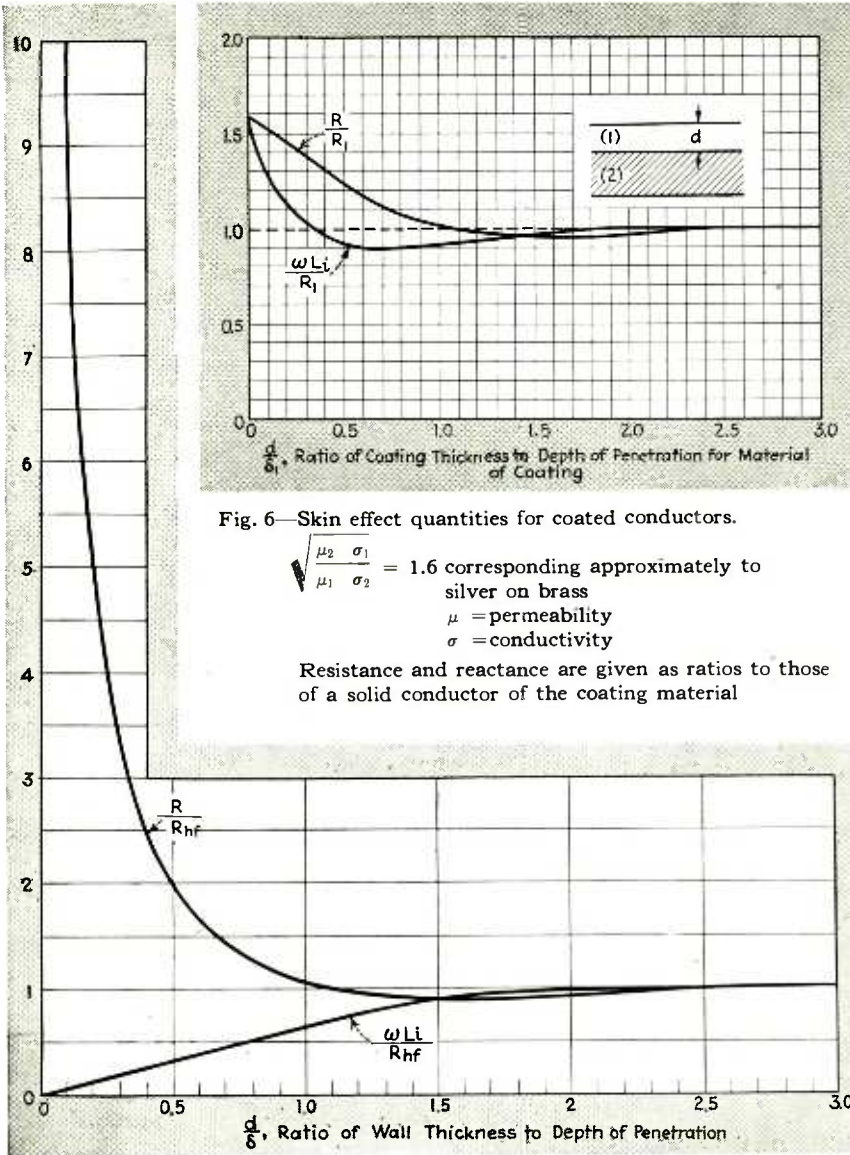
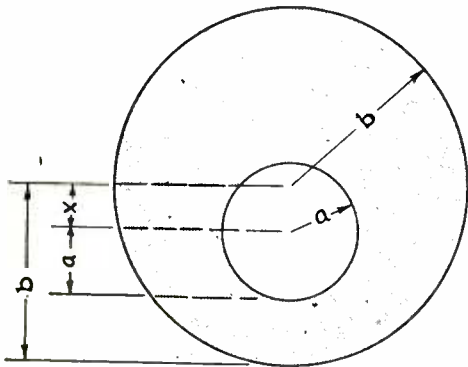

Fig. 6—Skin effect quantities for coated conductors.
Fig. 1—Configuration of eccentric transmission line with inner conductor displaced by amount  $x$
$d$  is wall thickness.  $\delta$  is given by Eq. 1 or Fig. 1.
$\delta_1$  is given by Eq. (1) or Fig. 1.
Curves are plotted in Figs. 6, 7, and 8 as functions of the ratio of coating thickness to depth of penetration, for values of  $\frac{R_{s2}}{R_{s1}} = 1.6$ , 0.34, and 5. These correspond approximately to silver coating on brass, solder coating on copper, and copper coating on iron or Fernico. It is seen that in all cases when coating thickness is equal to or greater than the depth of penetration,  $\delta_1$ , for the material of the coating (obtained from Eq. 1 or Fig. 1), the composite conductor is nearly as good, or as bad, as though the conductor were made entirely of the coating material.
$R_2$  given by Eq. (2) or Fig. 1.
It is of interest to find that the first order corrections are independent of conductivity of the coating. For any practical cases ( $d/\lambda$  small and  $R_{s2}$  less than one, as shown by Fig. 1) the correction to resistance is always small, but the correction to internal reactance may be very large since the coating may be much thicker than depth of penetration in the coated conductor, and so may contain much more magnetic flux than the coated conductor.
If there is no insulation present in the transmission line, we may use  $v = 3 \times 10^{10}$  cm per second, and compute  $C$  from the static capacitance between conductors. The configuration in which we are interested is shown in Fig. 1. The radius of the outer conductor is  $b$ , the radius of the inner conductor is  $a$ , while the axis of the inner conductor is displaced an amount  $x$  from the axis of the outer conductor. The capacitance of this configuration is1